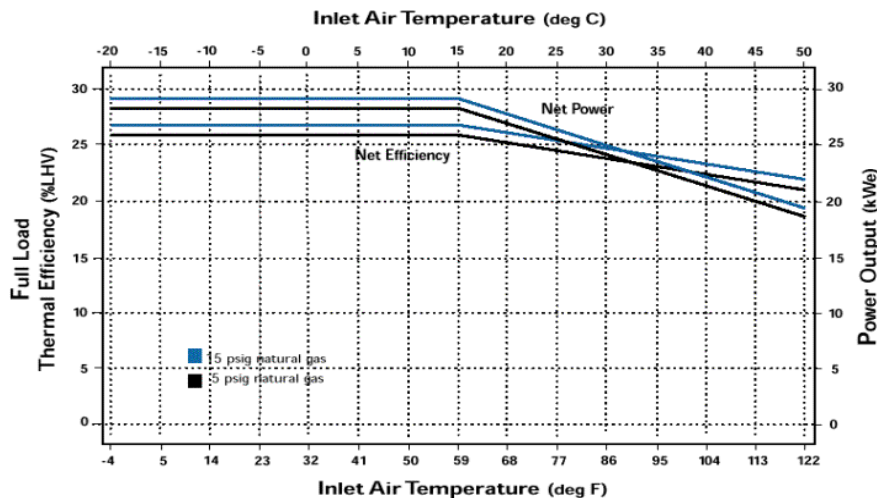

Figure 2-3 Effects of Ambient Temperature on the Electric Power Output and Fuel Efficiency of a Typical Microturbine
- Figure 2-3 shows the effects of air inlet **temperature** and **pressure** on gas turbine performance.